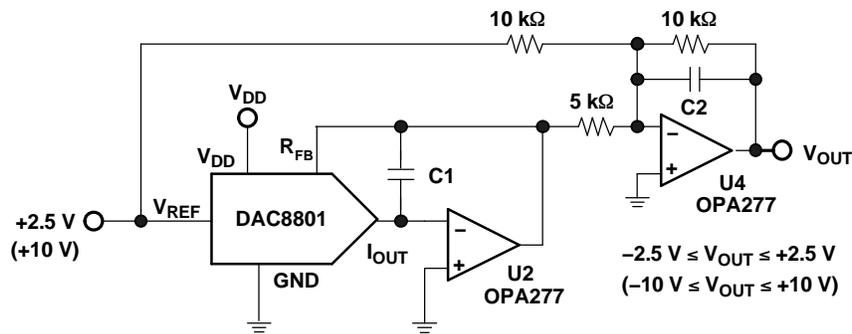

Figure 22. Bipolar Output Circuit
Some applications require full 4-quadrant multiplying capabilities or bipolar output swing. As shown in Figure 22, external op amp U4 is added as a summing amp and has a gain of 2X that widens the output span to 5 V. A 4-quadrant multiplying circuit is implemented by using a 2.5-V offset of the reference voltage to bias U4. According to the circuit transfer equation given in Equation 2, input data (D) from code 0 to full scale produces output voltages of  $V_{OUT} = -2.5\text{ V}$  to  $V_{OUT} = +2.5\text{ V}$ .